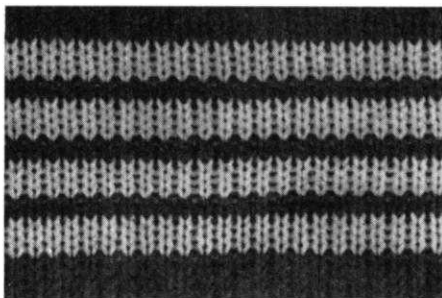

Fig. 25
### No. 1. COLOURED STRIPES (I), fig. 25